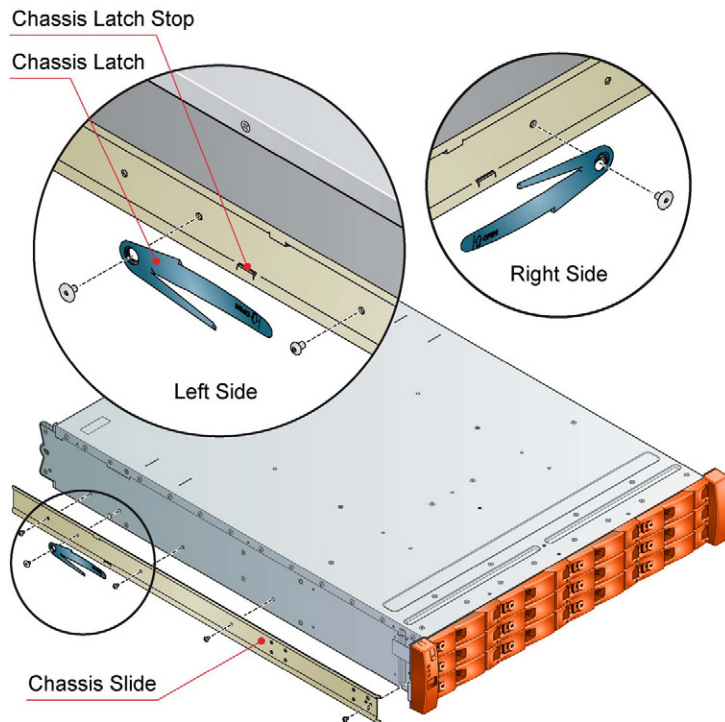

Figure 2 - Securing Chassis Slides to Enclosure
2. Attach left and right chassis slides to the enclosure sides using 8 M3 x 4 buttonhead screws (see Figure 2).
3. Assemble the left and right chassis latches using the special chassis latch screws. Ensure the latch is orientated as shown in Figure 2, with the spring arm located against its stop. On the right hand side this is at the top, on the left at the bottom.